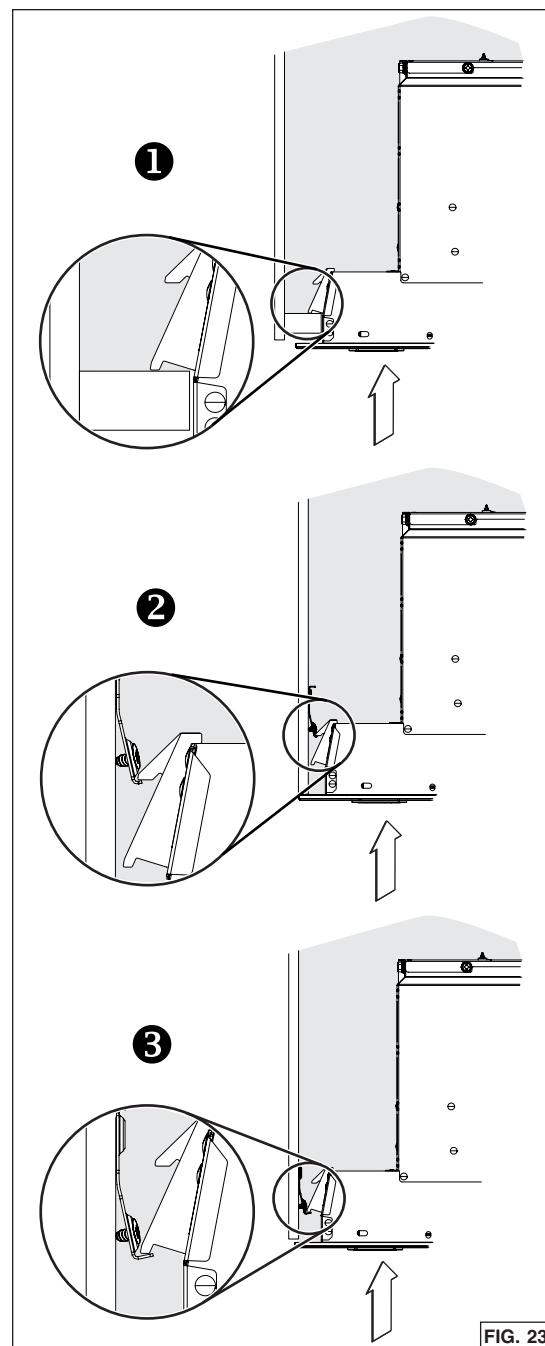

FIG. 23
2. Insert the unit in the cabinet, until you feel a 'click' from both sides of the unit, confirming that the Ease of Install hooks rest on the top of the cabinet bottom sides **1**, or cabinet brackets **2** or **3** (FIG. 23). Move the unit from left to right, from rear to front and up to ensure the Ease of Install hooks are retaining the unit inside the cabinet.